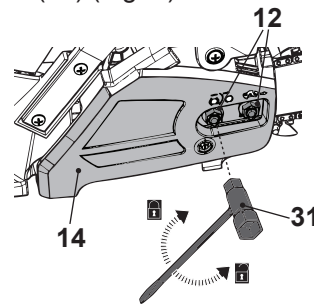

Fig. 7
9. Secure the cover (14) with the retaining nuts (12) (Fig. 7).